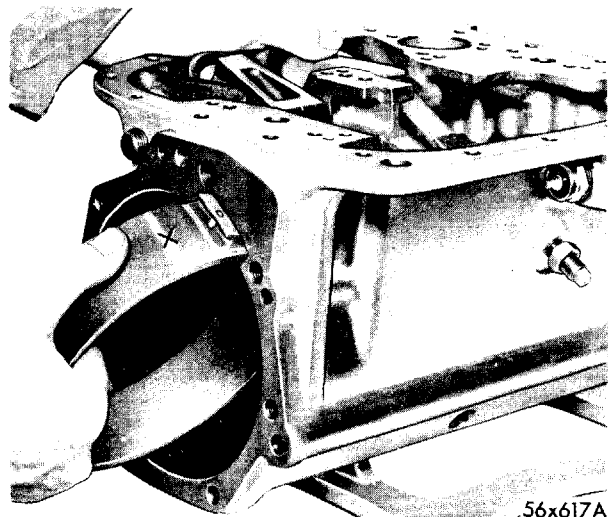

Fig. 44—Removal and Installation of Low-Reverse Band
(1) Mark the low-reverse band assembly for installation purposes: then compress ends of band sufficiently to remove the low-reverse band strut.
(2) Remove low-reverse band assembly by rotating band ends through rear opening in transmission case, as shown in Figure 44, and remove low-reverse band anchor from adjusting screw.